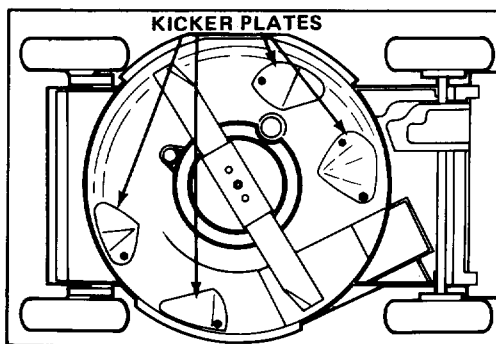

Figure 21
Keep underside of mower housing clean. Be especially careful to keep kickers on underside of mower housing free of debris (Fig. 21).
3. Tip mower on its right side (Fig. 21). Avoid rotating blade because starting problems may result.